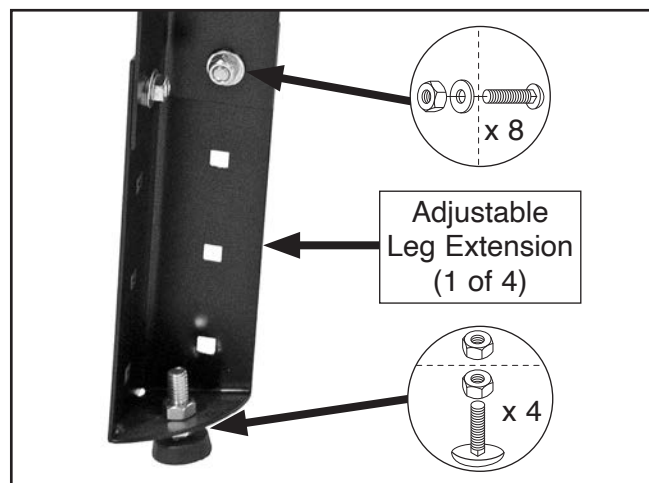

Figure 3. Adjustable leg extensions attached to legs.
1. Remove (4) leveling feet and (8) $\frac{3}{8}$ "-16 hex nuts from G0969 Scroll Saw base and install on (4) adjustable leg extensions, as shown in **Figure 3**.
2. Attach (4) adjustable leg extensions to bottom of legs with (8) $\frac{5}{16}$ "-18 x $\frac{1}{2}$ " carriage bolts, $\frac{5}{16}$ " flat washers, and $\frac{5}{16}$ "-18 hex nuts (see **Figure 3**).